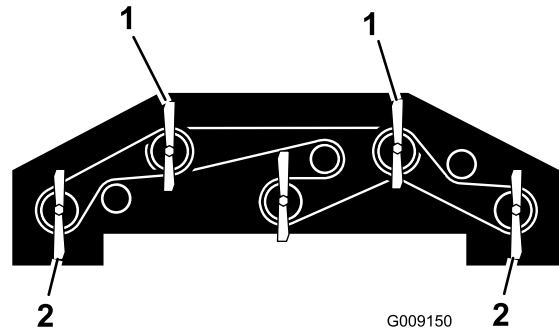

Figure 105
1. Rotate each blade so that they point straight forward (Figure 105).